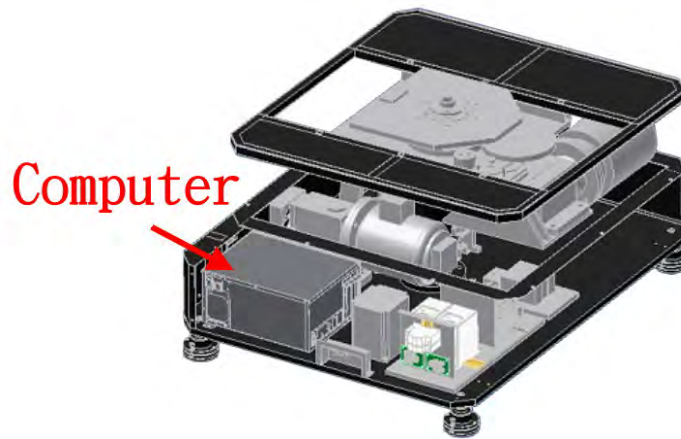

Figure 23 Locate the system's PC (Computer)
2. Locate the system's PC (Industrial PC): Referring to Figure 23, open the front case of the chassis located at the bottom of the motion base. You can see the PC is installed at the left corner.